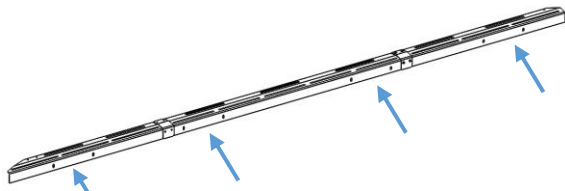

Figure 7: Mounting Bracket Locations
5. Install the mounting brackets onto the side rail assembly using the 1/4"-20 x 5/8" carriage bolts, nuts, and washers as shown in Figure 7 & 8. There are 4 mounting bracket location on each side (8 total).